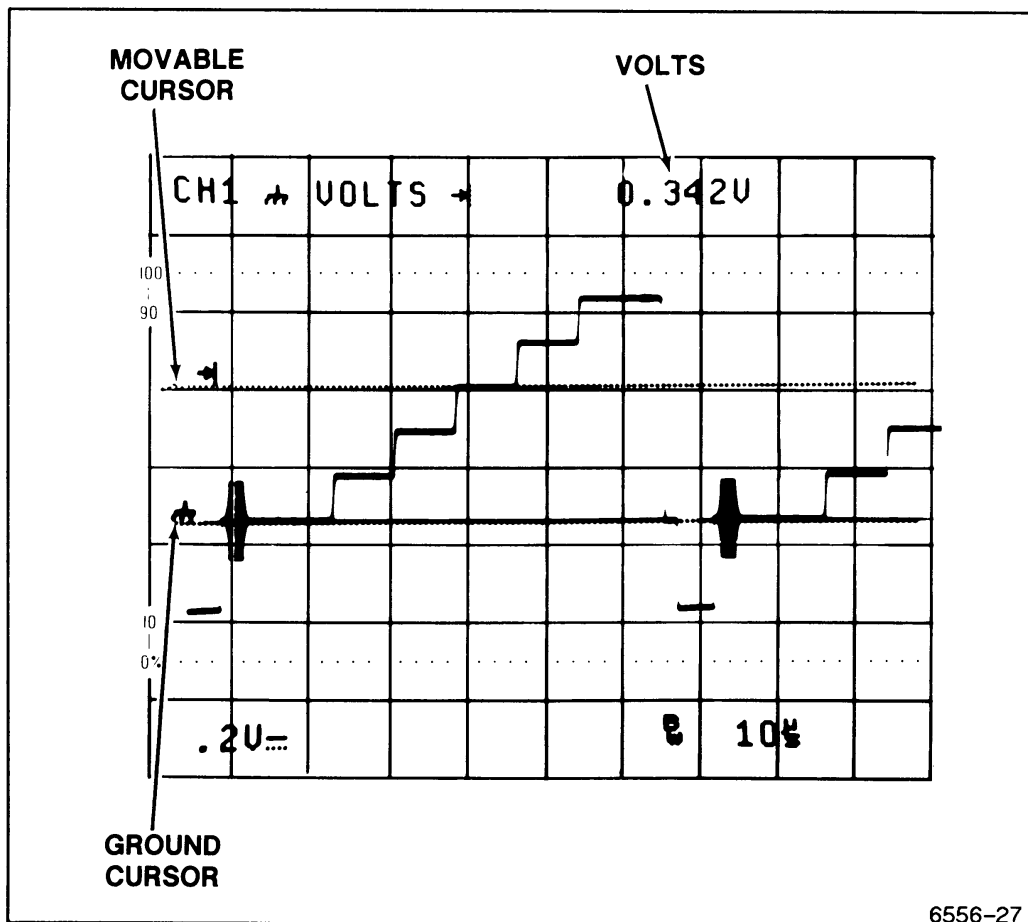

Figure 5-4. Voltage measurement.
5. Position the independent cursor using the \rightarrow control to the measurement point on the waveform and read out the value of the cursor position (shown in Figure 5-4). (The \leftarrow OR DELAY control has no effect.)
The test signal used for illustration purposes in Figure 5-4 is a video test signal. For triggering on a video waveform, select TV LINE Trigger COUPLING and negative (\sphericalangle) Trigger SLOPE; for other signal types, no change of COUPLING or SLOPE is required.